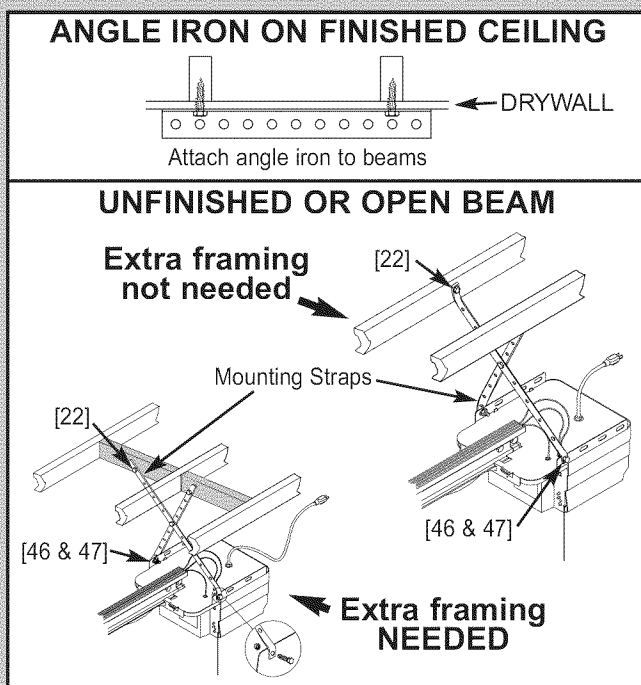

FIG. 2-10 Mounting the power head.
- Fasten curved door arm to door bracket using clevis pin (24) and cotter pin (25) (**Fig. 2-10**).